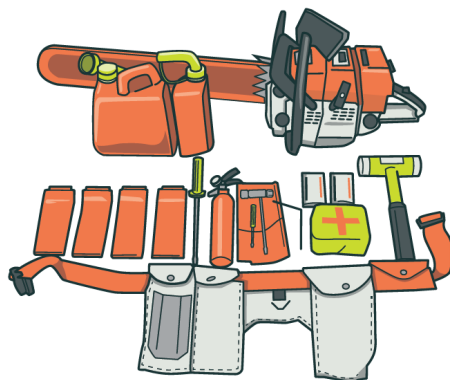

Figure 21: Faller equipment
21.4.5 Make sure fallers have the right equipment for the job, including the number of wedges (Figure 21).
- 21.9.3 If a felled tree falls into or brushes past another, the danger zone extends some distance behind the felled tree as the top or limb could rebound backwards. This means the recommended escape route (Figure 21) could be in the danger zone.